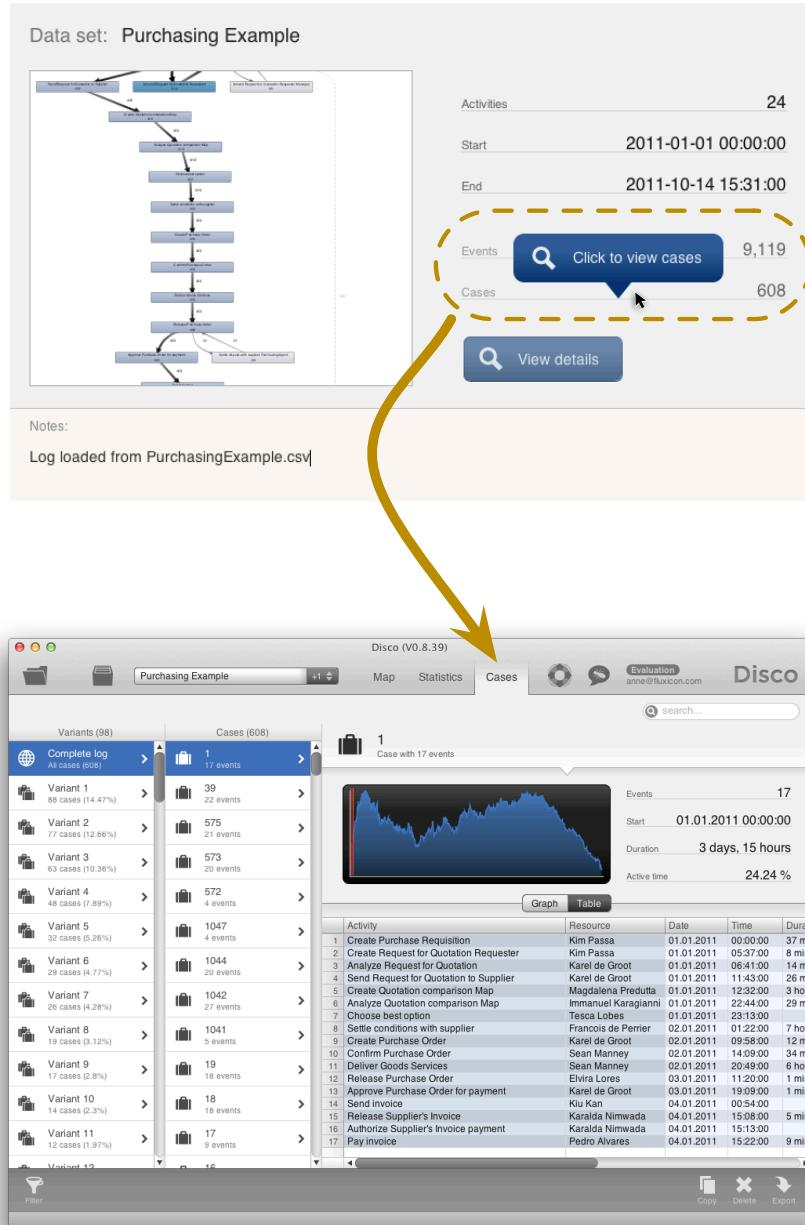

Fig. 6.6. Clicking on the case overview in the project view brings you to the cases of your data set.
- If you want to see the individual cases (Chapter 4.3), move your mouse in the overview area until the speech bubble says *Click to view cases* (see Figure 6.6). Once you click, you will be brought to the Cases view.